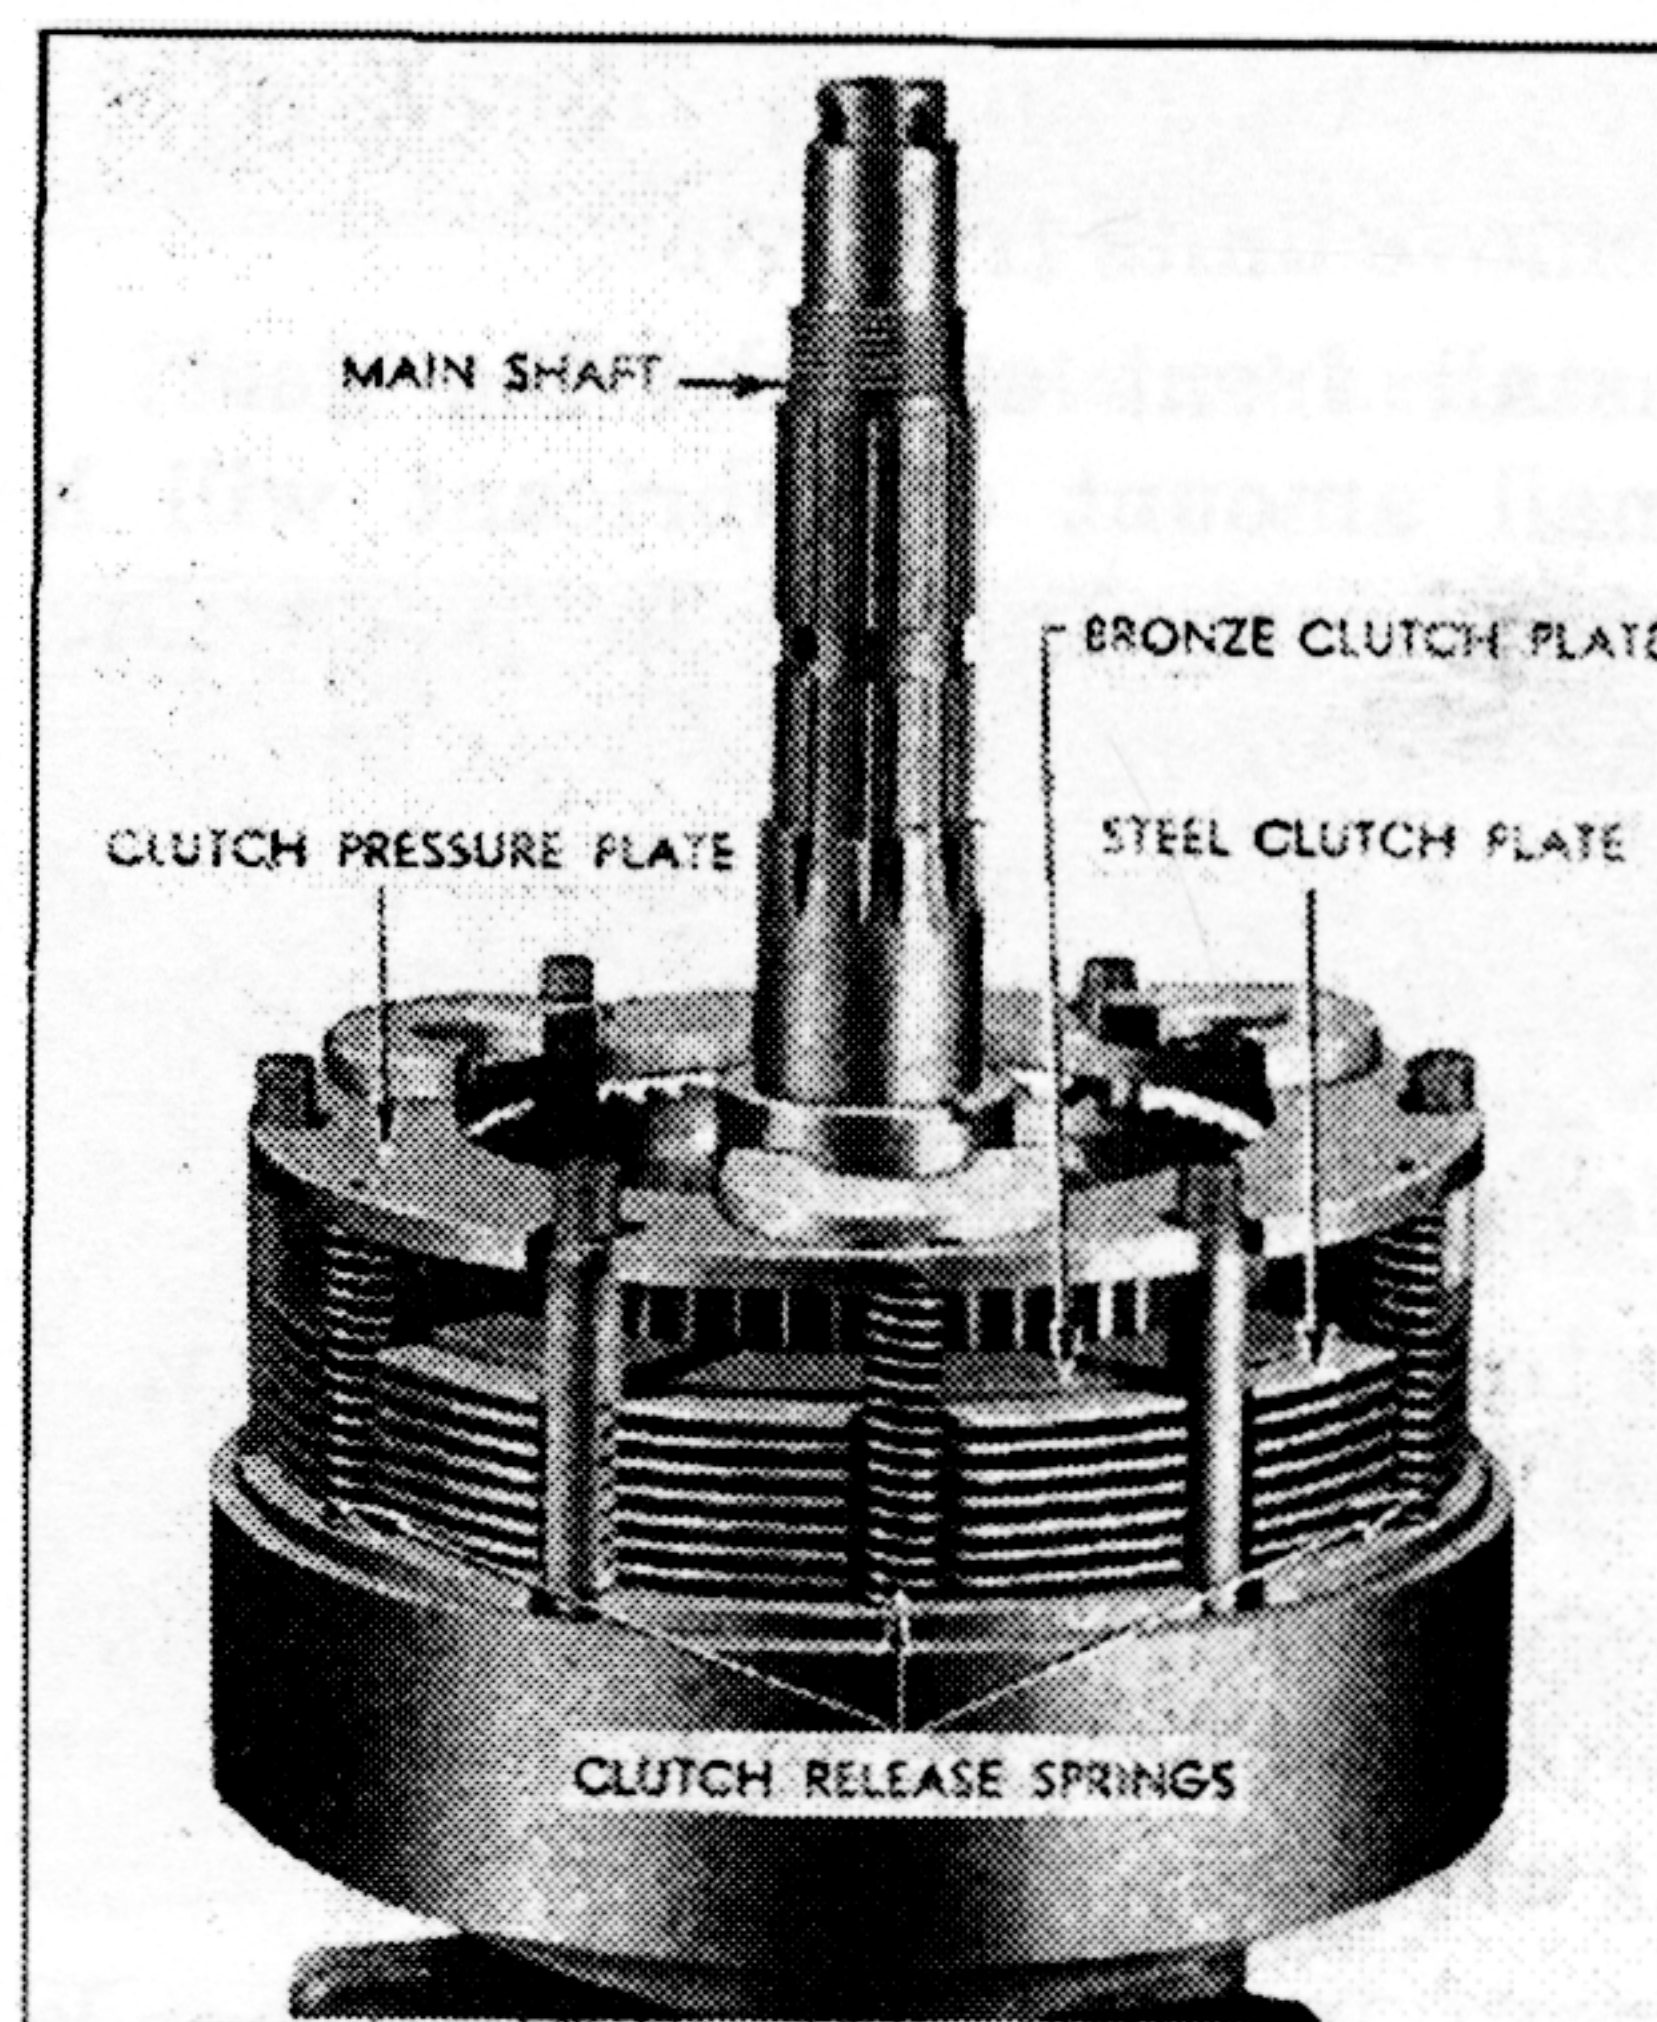

Fig. 27. Rear Unit Assembly
9. Install clutch release springs and pressure plate. See Fig. 27. Make sure that springs are located properly in counter-bored holes in pressure plate.
11. Install clutch pistons (3) in cylinders in front half of rear drum. Use screwdriver to start piston rings in cylinders.